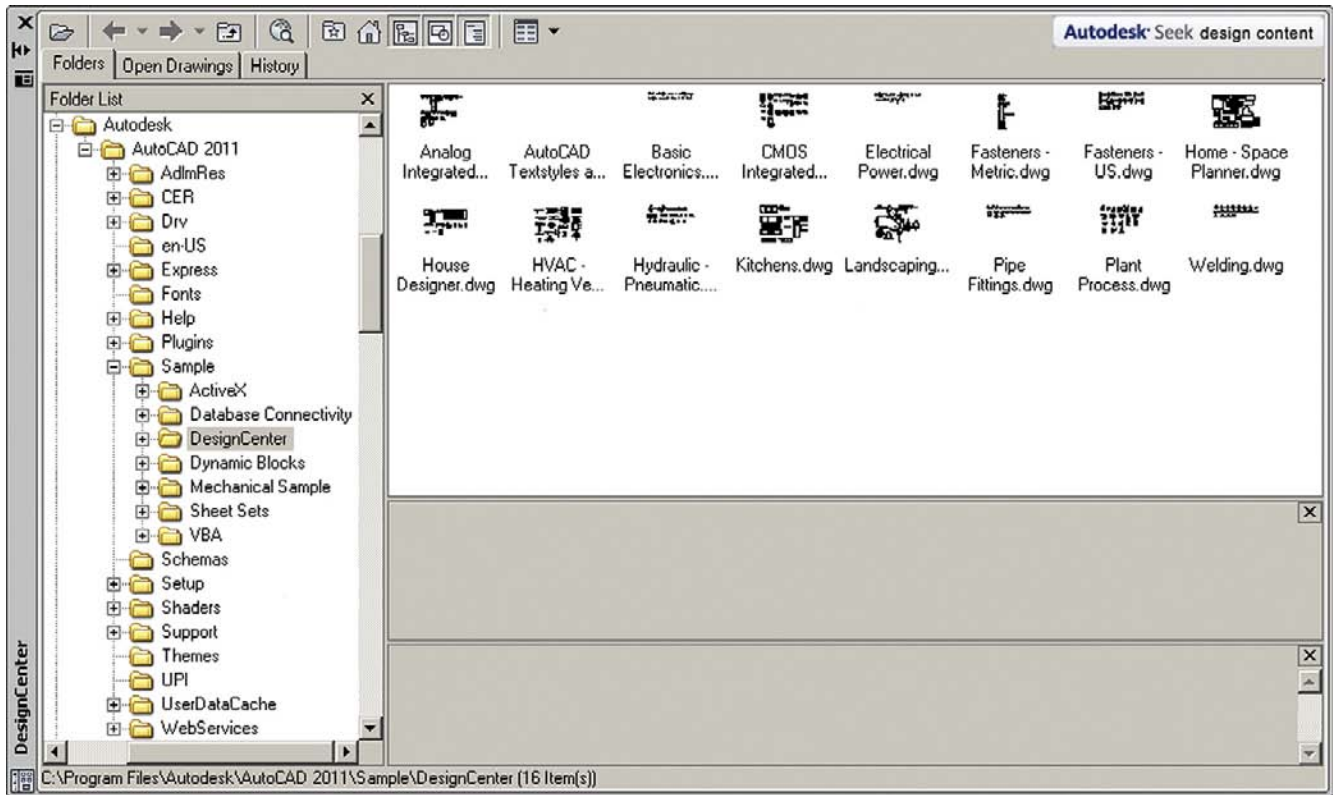

FIGURE 14.28
You can probably guess at one of the purposes of the Design Center (DC) as soon as you open it by using the cascading menus **Tools**→**Palettes**→**DesignCenter** (also via typing in dc and pressing Enter, or Ctrl + 2). Be sure to dock it to the left side of the screen and expand all the sections for good visibility, as shown in Figure 14.28.